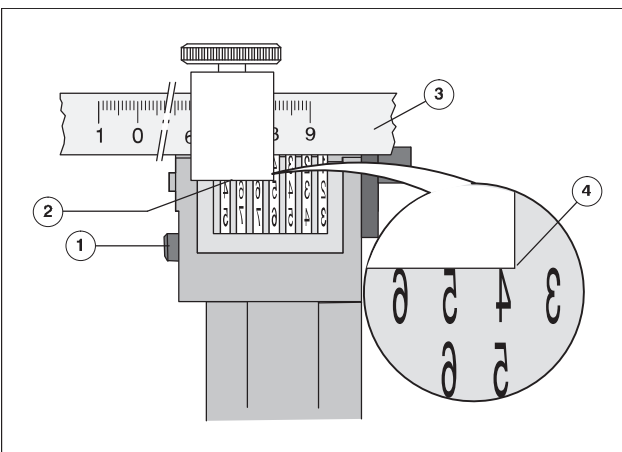
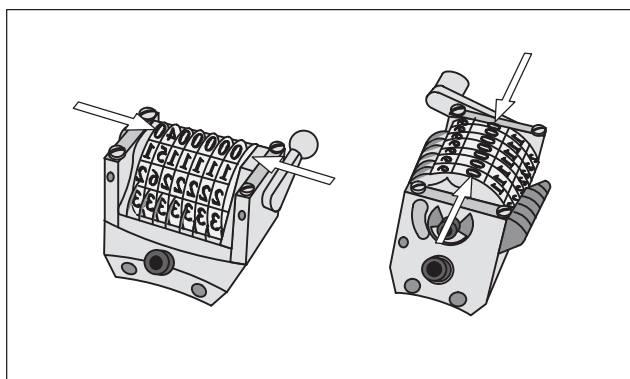

Fig. 43 Aligning the numbering boxes vertically
Fig. 44 String of printing digits on the numbering boxes
4. Release the locking screw (Fig. 43/1) on the numbering box.
5. Move the numbering box on the supporting ring until the first line of print of the numbers (Fig. 43/4) of the numbering box is flush with the front edge (Fig. 43/2) of the caliper. The strings of digits to be printed are marked in Fig. 44 by an arrow.
6. Tighten the locking screw (Fig. 43/1) on the numbering box.